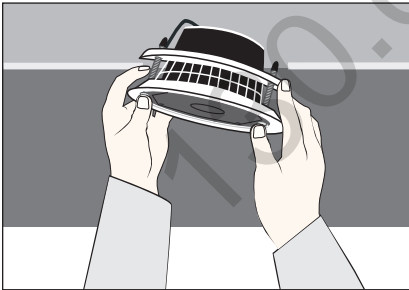

Fig. 6a
- b) *For Speakers With Two Mounting Screws:* Holding the speaker flange with your fingers, push on the screw heads with your thumbs to extend rear bracket. The bracket is oblong, extending past each screw. Fit one oblong end into the hole far enough to allow the other oblong end to also fit into the hole. (Fig. 6a)